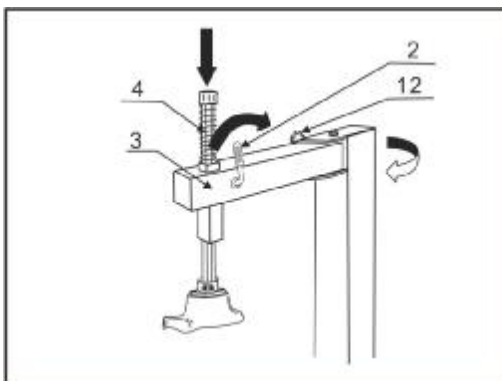
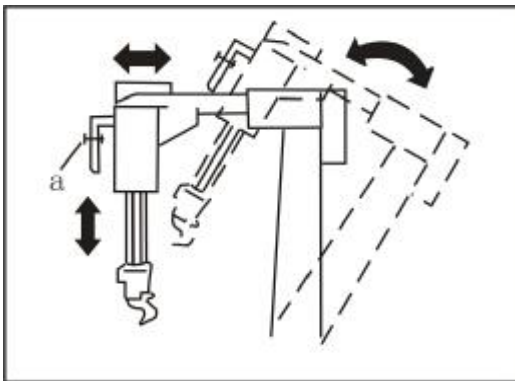
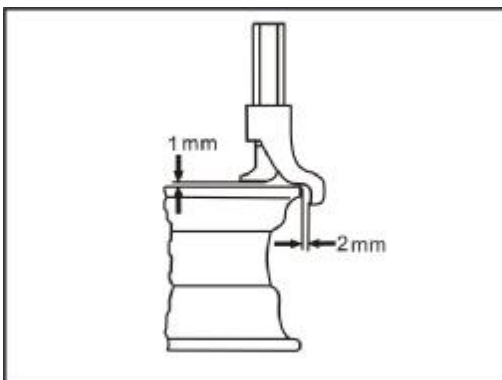

Fig.07
Fig.08
Fig.09
- I Pull back the swing arm(3, fig.07) to working position, adjust hexagonal column(4) up and down to make mount/demount head 1-2 mm away from rim flange to protect rim(fig.09), turn knob (12)to lock swing arm, and turn locking handle(2) clockwise to lock hexagonal column.
- I Depress pedal “⬇” to restore the tilting post to its working position (Fig.08).
- I Press the hexagonal column and adjust hexagonal column and horizontal arm to make mount/demount head 1-2 mm away from rim flange to avoid scratching rim(fig.09). Press button (a) (fig.08) on the locking handle to lock the hexagonal column.